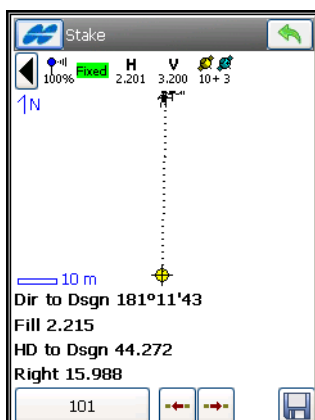

Figure 13-8. Stakeout Overhead View
**Overhead View:** opens the graphical view of the layout of the target and current position (see Figure 13-8 on page 13-9).